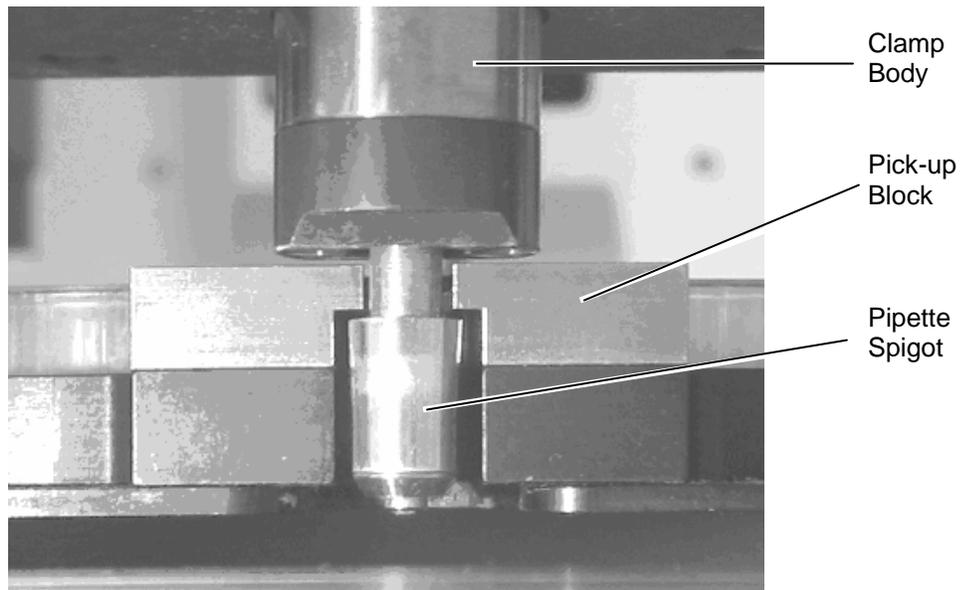

Figure 3-6 Pipette Entering Plate Holder Assembly Prior to Clamping
- 3 Select **Get Plate** while observing the pipette spigot as it enters the plate holder assembly (Figure 3-6). As the pipette moves back into the clamping slot, the spigot must align with the plate holder as shown. Skip to the next step if this is correct. If not, the X and Z coordinates will need to be adjusted to achieve this alignment.